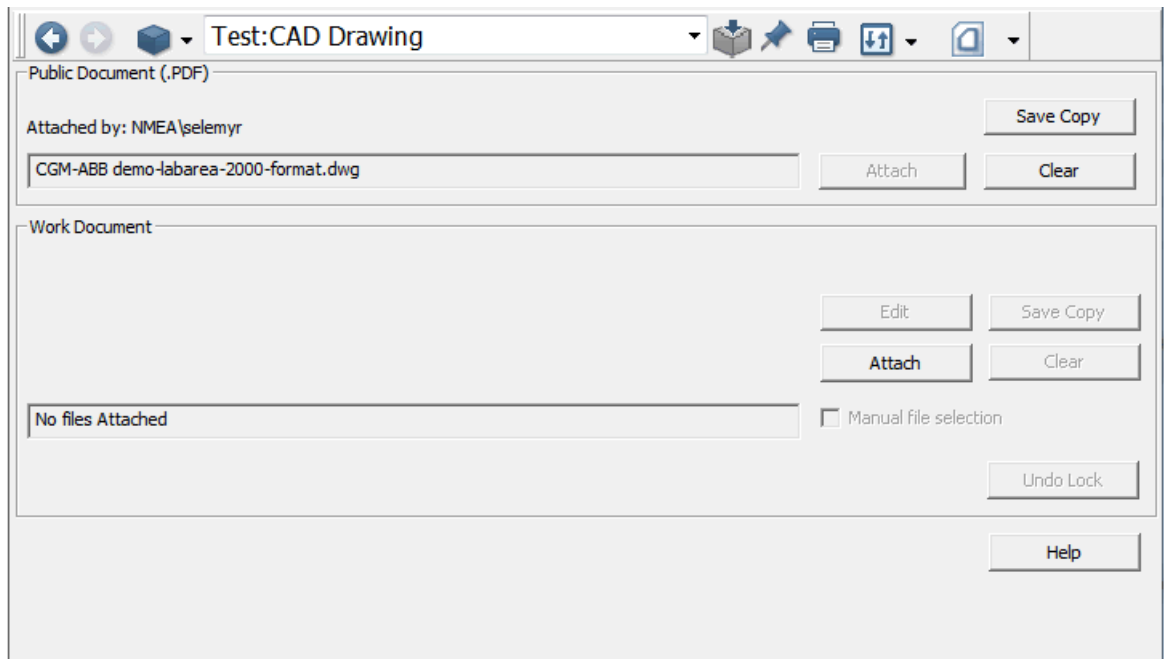

Figure 307. CAD Drawings - AUTOCAD File Attachment
3. Click **Attach** in the **Public Document** section and browse for the AUTOCAD file (.dwg), see Figure 307.